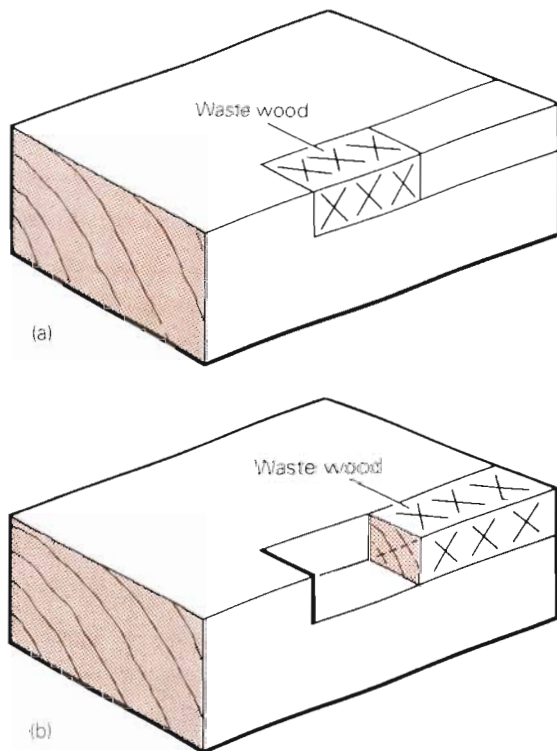

Figure 5.9 Cutting a stopped rebate: (a) cut out a piece, (b) remove the waste.
8. To cut a stopped rebate, you must first cut out a small mortise. Sometimes it is easier to cut down to the required depth with a tenon saw and finish off with the rebate plane (Figure 5.9).